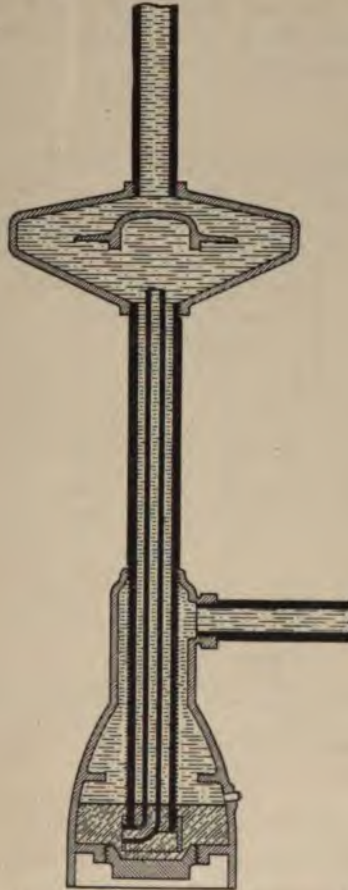

Fig. 64.—Sectional View of Honeywell Generator.
A. A sectional illustration is shown by Fig. 64. The generator is composed of two hollow castings which are joined by a wrought